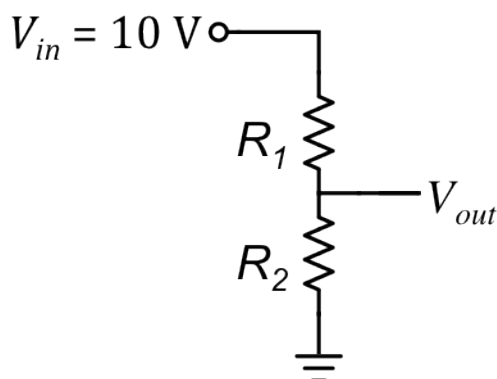

Figure 2 - Voltage divider circuit.
In this portion of the lab, you will construct the circuit shown in Figure 2 using a solderless breadboard. You will then measure V_{out} as a function of the resistance R_1 . Copy the circuit diagram and table into your lab notebook.
1. Sketch the circuit shown in Figure 2 in your lab notebook.
5. Insert this resistor into breadboard as R_1 to form the circuit shown in Figure 2. Use the breadboard's built-in power supply to provide $V_{in} = 10\text{ V}$ to the circuit. Make sure the other end of the circuit is properly connected to ground.
11. Make a plot of the *measured* output voltage V_{out} as a function of the *measured* resistance R_1 with the theoretical curve given by Eq. (1). (Make the *theoretical* curve smooth by using 'linspace()' for the variable R_1 , and the measured value for the constant R_2 .)